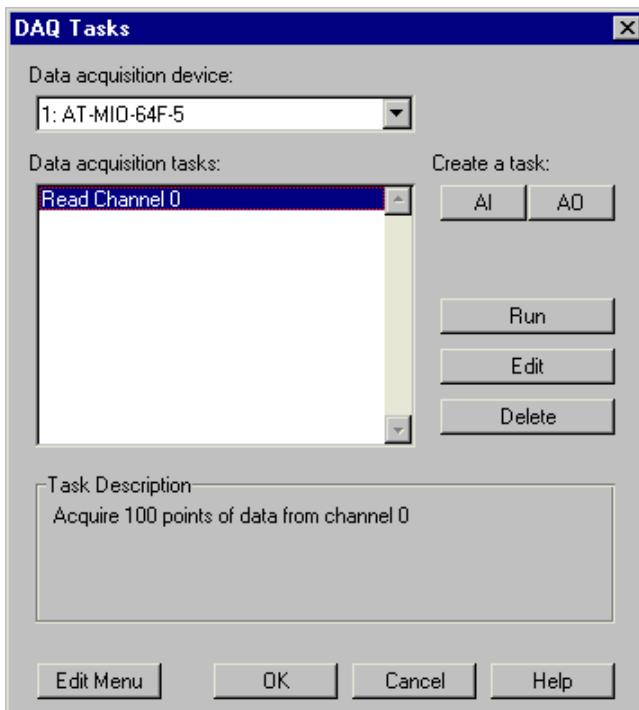

Figure 2-4. DAQ Tasks Dialog Box
7. Click on the **OK** button to return to the DAQ Tasks dialog box, shown in Figure 2-4. Notice that you now have a task named Read Channel 0 in your task list. Notice also that the description for this new task appears in the dialog box as well.